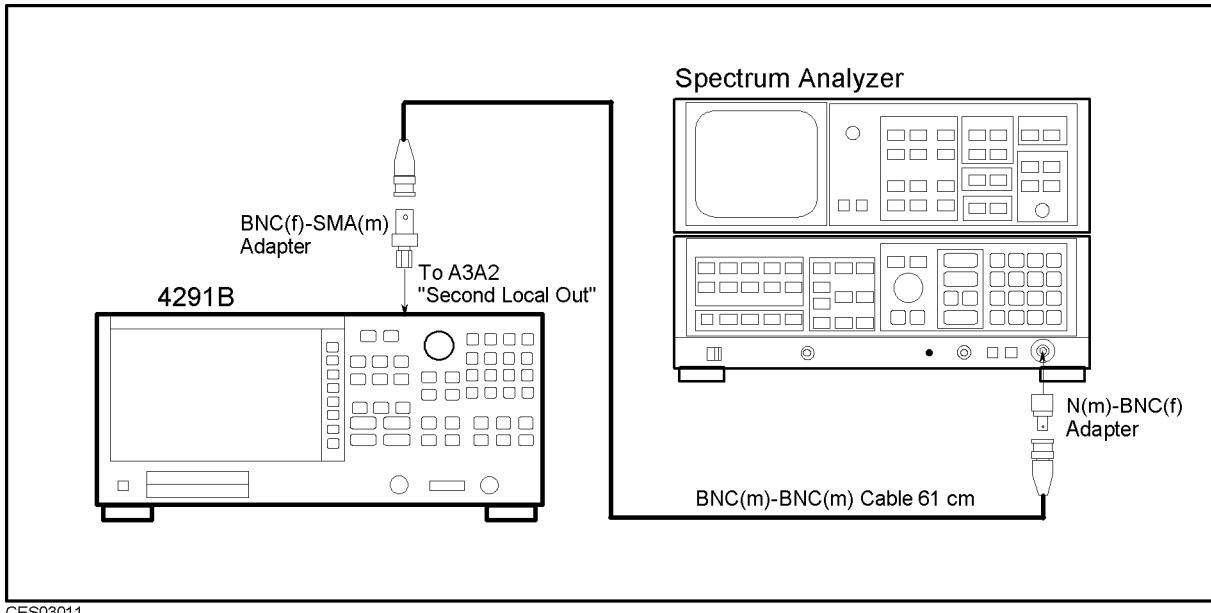

Figure 3-10. Second Local PLL Adjustment Setup
3. Connect the equipment as shown in Figure 3-10.